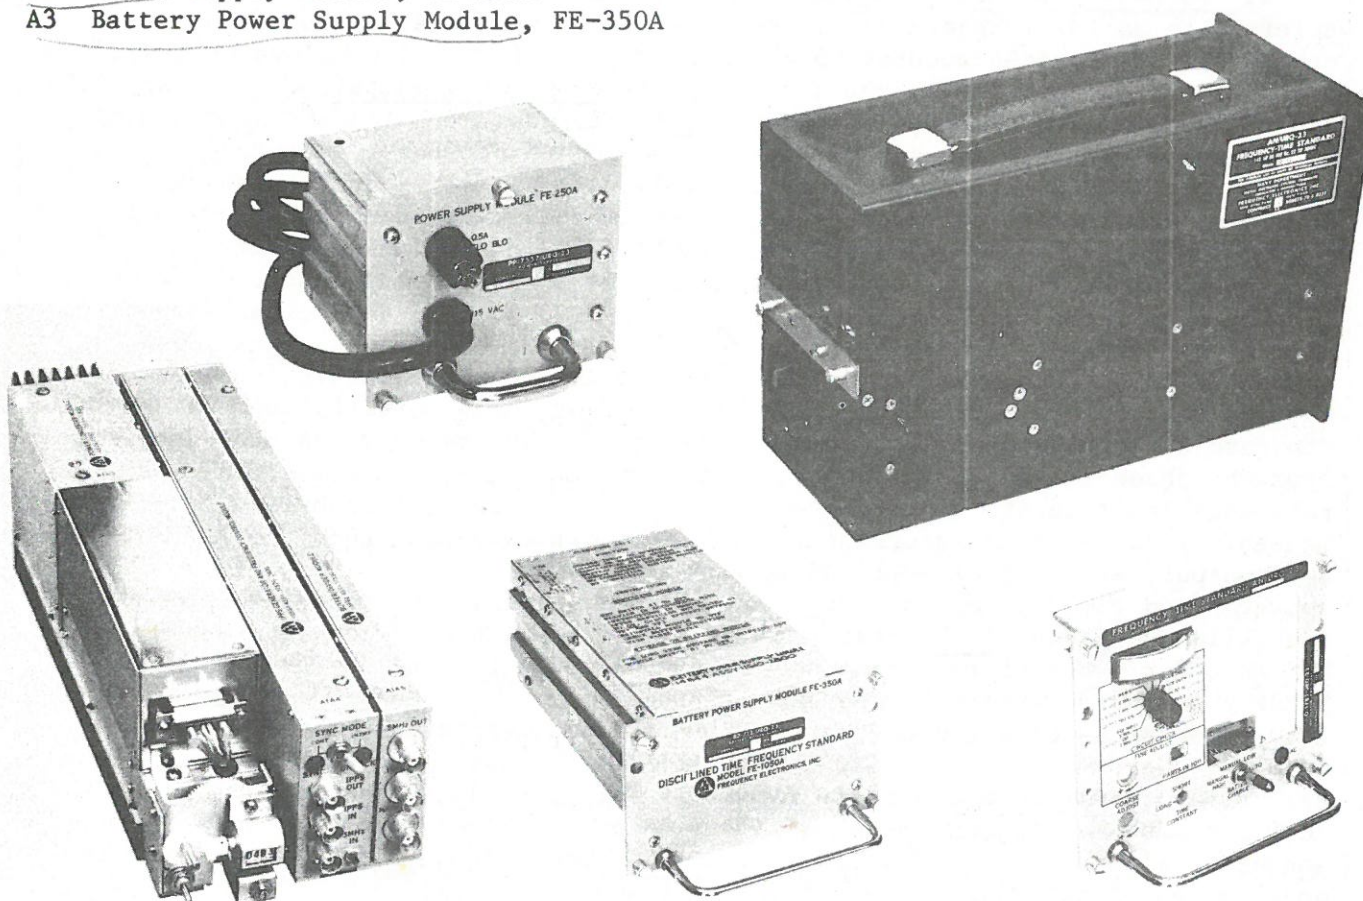

Figure 1-2. Major Assemblies of Standard Modules
b. Physical Description. Three major plug-in modules mounted in an enclosure comprise the standard. These modules, Radio Frequency Oscillator 0-1783/URQ-23, Power Supply PP-7557/URQ-23 and Battery Power Supply BB-712/URQ-23, are shown in figure 1-2. Physical descriptions of each of these modules are provided in the following subparagraphs.
(1) Radio Frequency Oscillator 0-1783/URQ-23. Radio Frequency Oscillator 0-1783/URQ-23 (hereinafter called rf oscillator A1) contains most of the electronic circuits of the standard. These circuits are arranged on six assemblies, which are listed in table 1-1 and illustrated in figure 1-2. The six assemblies are interconnected on a chassis through respective connectors. The output signals of each assembly that are required by the user are directly accessible at the front or on the rear of the standard. In addition, all operating controls and indicators for the standard (except one located on Battery Power Supply BB-712/URQ-23) are accessible on the front and rear panels. (See figures 2-1, 2-2 and 2-3.) Access to the assemblies (other than front panel A1A6) requires removal of the standard's enclosure. (See figure 1-2.) Rf oscillator A1 is secured to the enclosure of the standard by two captive fasteners at the rear of the enclosure and by four captive fasteners that secure front panel A1A6 at the front of the standard.